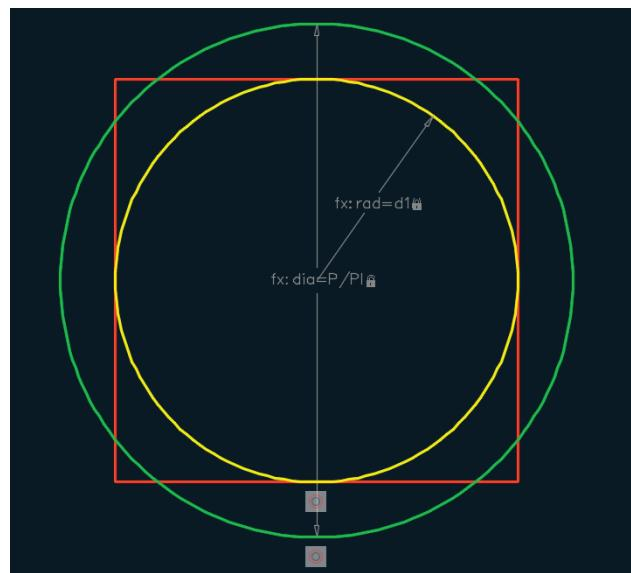

FIGURE 12.10 Constraining the yellow circle geometrically and dimensionally
4. Select the Radius constraint tool in the Dimensional panel, select the yellow circle, and click a point inside the circle to locate the dimension line. Type **rad=d1**, and press Enter. The yellow circle changes size so that it fits perfectly within the square (see Figure 12.10).